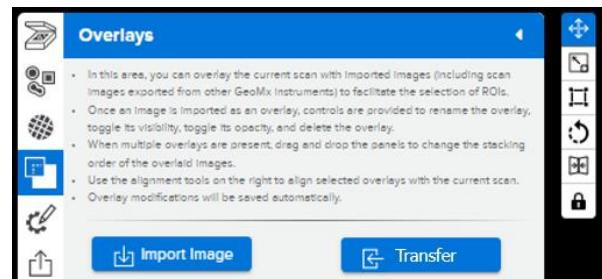

Figure 38: Overlays panel
1. Select the **Overlays** button in the Scan Workspace to open the Overlays Panel (see Figure 38).
4. Click **Alignment** in the gray overlay box to reveal alignment tools on the scan (see Figure 38). Alignment tools allow you to **Move**, **Scale**, **Resize**, **Rotate**, create a **Mirror Image**, and **Lock** the overlay. Use these parameters or the alignment tools that appear on the scan to adjust the alignment of the selected overlay on the current scan.
1. In the Scan Workspace, select the **Overlays** button to open the **Overlays Panel** (see Figure 38).